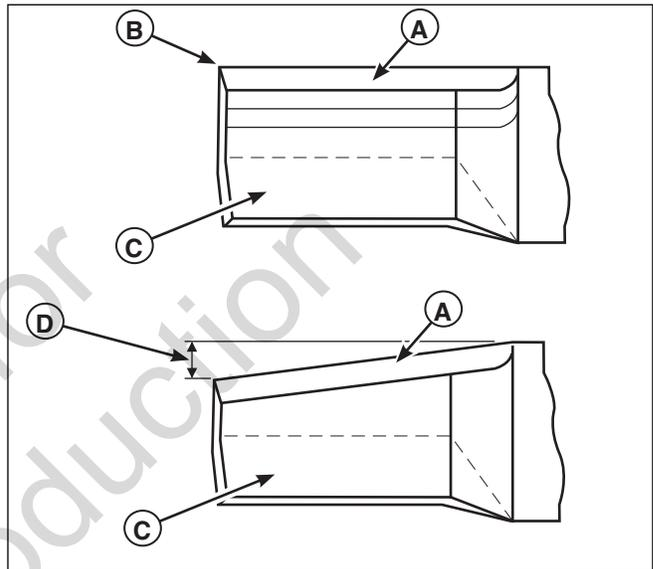

Figure 22. Inspecting the Mower Blade Tips
2. Inspect the mower blade (Figures 22 & 23). **Discard the mower blade if it has any of the below conditions:**